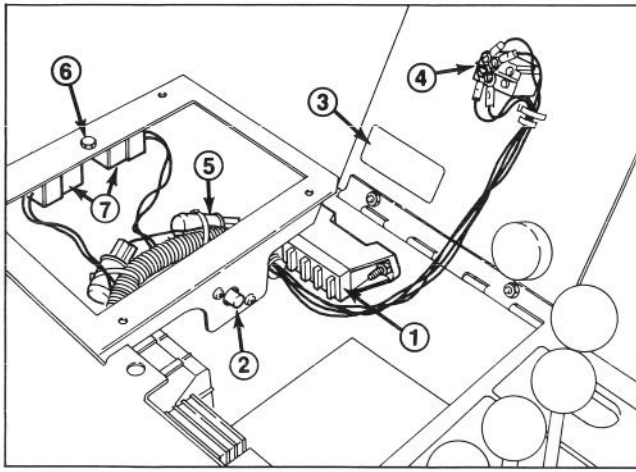

Figure 20
3. Align the fuse block with the mounting holes and secure it to the control support with 10-24 x 3/4 in. machine screws and keps nuts (Fig. 20).
4. Remove the screw securing the multiple red wire assemblies to the circuit breaker (Fig. 20). Insert the screw through the eyelet of the red wire from the fuse block and reinstall the screw and wires onto the circuit breaker (Fig. 20).
5. Install the fuse block decal to the underside of the control box cover just above the fuse block (Fig. 20).
7. Insert the signal and warning flasher assemblies into a harness connector and use tie wires to secure the assemblies to the wire harness (Fig. 20).
8. Insert a 1/4-20x 1/2 in. capscrew down through the rear hole in the rear plate. Mount the relays onto the capscrew and secure to the plate with a keps nut (Fig. 20).
9. Connect the harness connectors to the relays (Fig. 20).